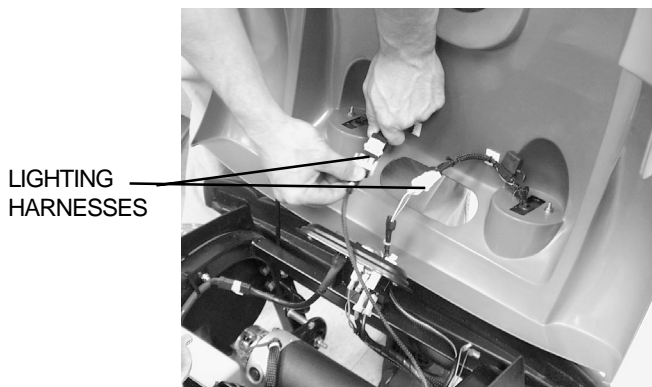

Figure 19. Disconnect Lighting Harnesses
4. Gently lift the rear shroud off of your scooter far enough to be able to disconnect the rear light harnesses. See figure 19. The rear shroud is held in place with a reusable fastener.